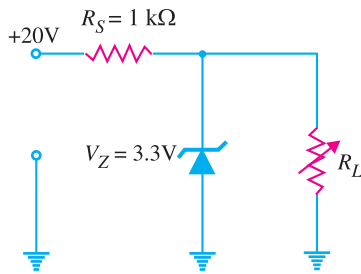

Fig. 17.32
- The zener diode in Fig. 17.32 has values of $I_{Z(min)} = 3$ mA and $I_{Z(max)} = 100$ mA. What is the minimum allowable value of R_L ? **[241 Ω]**